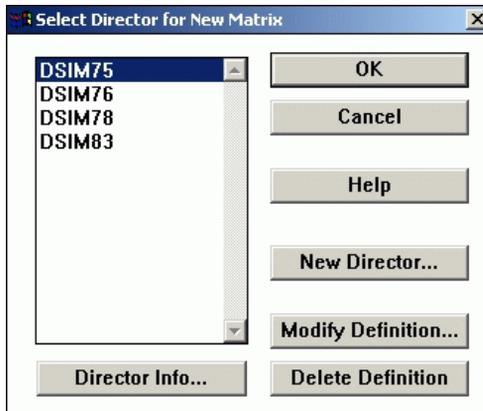

Figure 29 Select Director for New Matrix Dialog Box
3. Select *New Configuration Matrix* from the *File* menu. The *Select Director for New Matrix* dialog box displays (Figure 29).